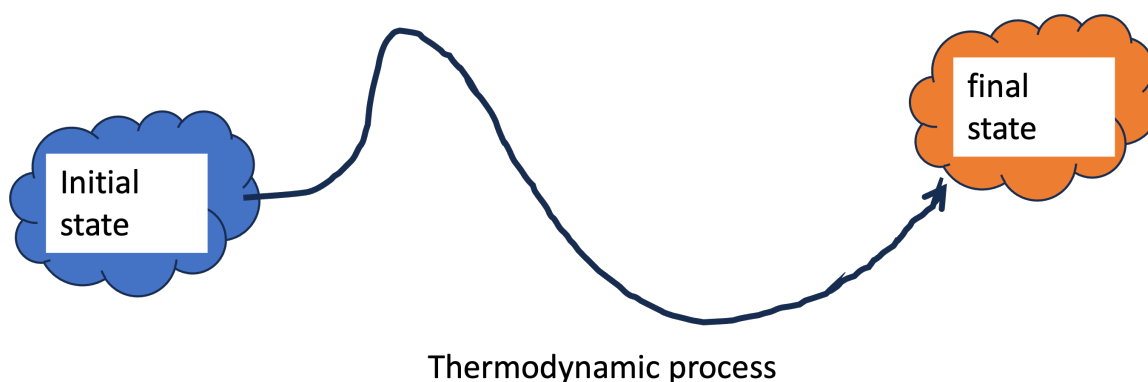

Fig. 11: Thermodynamic process
- **Thermodynamic process:** A specific series of events that take place over a specific time, taking the *system* from an *initial state* to a *final state*. See Fig. 11